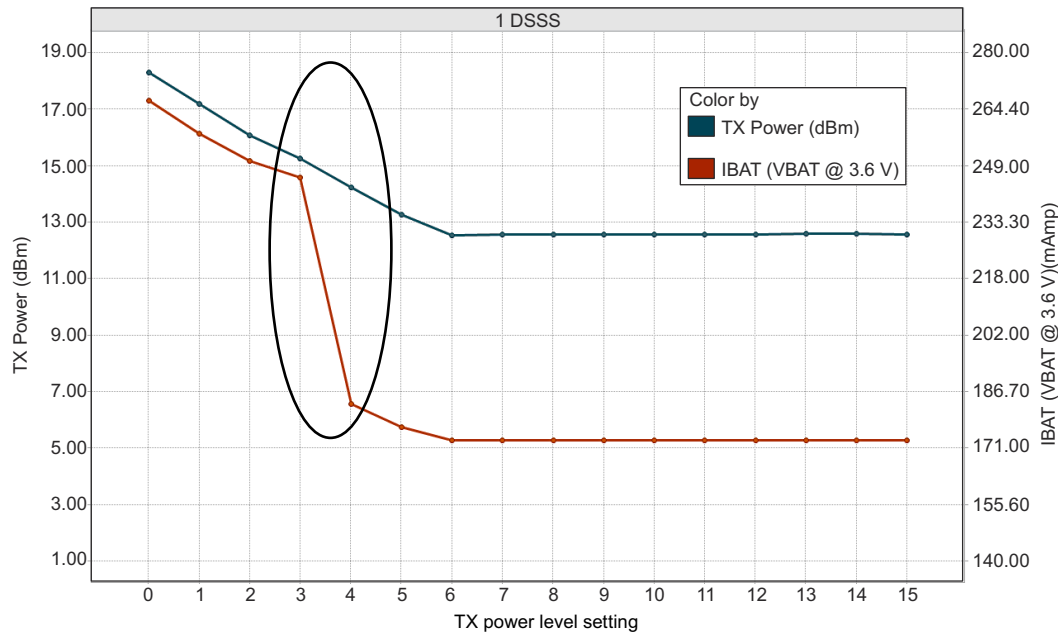
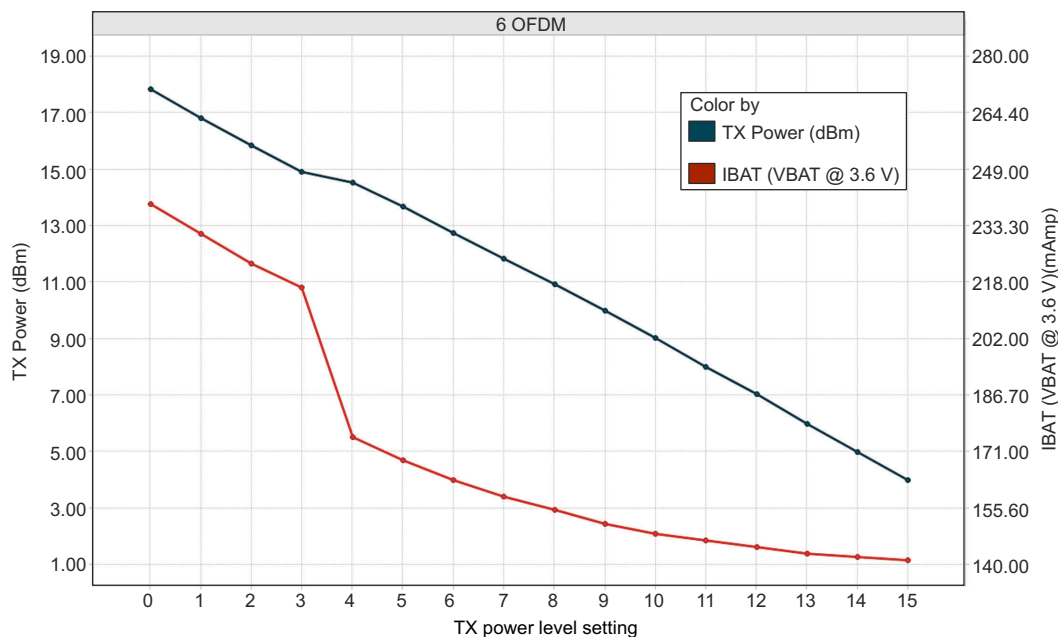
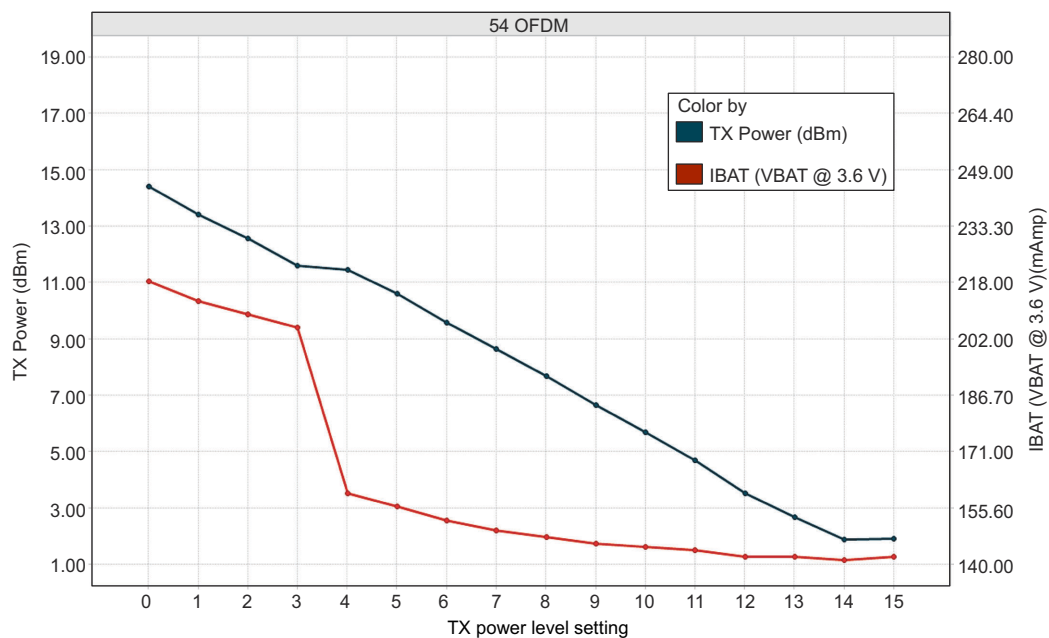

图 8-1. TX Power and IBAT vs TX Power Level Settings (1 DSSS)
图 8-2. TX Power and IBAT vs TX Power Level Settings (6 OFDM)
图 8-3. TX Power and IBAT vs TX Power Level Settings (54 OFDM)
- (1) TX power level = 0 implies maximum power (see 图 8-1, 图 8-2, and 图 8-3). TX power level = 4 implies output power backed off approximately 4 dB.
- (2) CC3220MODx and CC3220MODAx are constant, power-source systems. The active current numbers scale based on the V_{BAT} voltage supplied.
- (3) DTIM = 1
- (4) The LPDS number of reported is with retention of 256KB of MCU SRAM. The CC3220MODx and CC3220MODAx modules can be configured to retain 0KB, 64KB, 128KB, 192KB, or 256KB of SRAM in LPDS. Each 64-KB block of MCU retained SRAM increases LPDS current by 4 μA.
- (5) The complete calibration can take up to 17 mJ of energy from the battery over a time of 24 ms. In default mode, calibration is performed sparingly, and typically occurs when re-enabling the NWP and when the temperature has changed by more than 20°C. There are two additional calibration modes that may be used to reduced or completely eliminate the calibration event. For further details, see *CC3x20 SimpleLink™ Wi-Fi® and Internet of Things Network Processor Programmer's Guide*.
- (6) The RX current is measured with a 1-Mbps throughput rate.
- (3) The RX current is measured with a 1-Mbps throughput rate.
- (4) DTIM = 1
- (5) The LPDS number of reported is with retention of 256KB of MCU SRAM. The CC3220MODx and CC3220MODAx modules can be configured to retain 0KB, 64KB, 128KB, 192KB, or 256KB of SRAM in LPDS. Each 64-KB block of MCU retained SRAM increases LPDS current by 4 μA.
图 8-1, 图 8-2, and 图 8-3 show TX Power and IBAT versus TX power level settings for the CC3220MODS module at modulations of 1 DSSS, 6 OFDM, and 54 OFDM, respectively. For the CC3220MODSF module, the IBAT current has an increase of approximately 10 mA to 15 mA depending on the transmitted rate. The TX power level will remain the same.
In 图 8-1, the area enclosed in the circle represents a significant reduction in current during transition from TX power level 3 to level 4. In the case of lower range requirements (14-dBm output power), TI recommends using TX power level 4 to reduce the current.